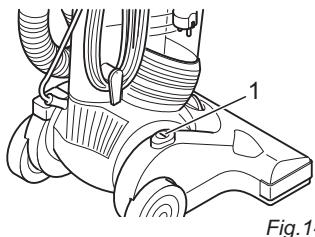

Fig.14
The brushing roller is in motion when the appliance is switched on. In order to avoid injuries, position the appliance so it is upright, move the handle forwards until it audibly clicks into place and turn the pile depth adjustment (Fig. 14/2) to the left if you want to work with the accessory nozzles (idle running mode).
4. Switch on the brush vacuum cleaner using the on/off switch (Fig. 14/1).
1. Switch off the brush vacuum cleaner using the on/off switch (Fig. 14/1) and pull the plug out of the socket.
6. Turn the pile depth adjustment entirely to the right (Fig. 14/2).